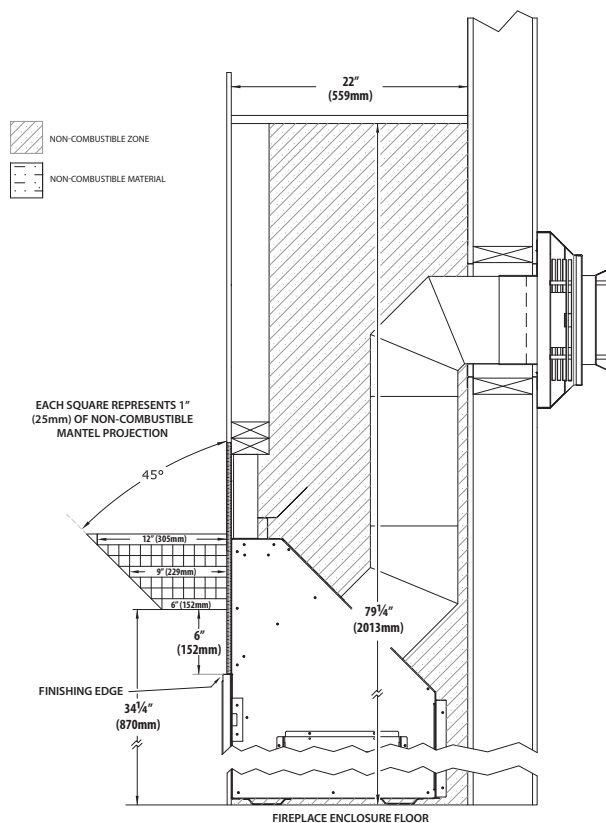

Figure 4.2, Non-combustible Mantel Clearances
- **Non-combustible Mantel Projections** - Minimum Vertical and Maximum Horizontal: A minimum vertical clearance of 6" (152mm) above the finishing edge to a maximum 6" (152mm) depth of a non-combustible mantel. Follow projection 1" (25mm) up for every 1" (25mm) deeper. See Figure 4.2.